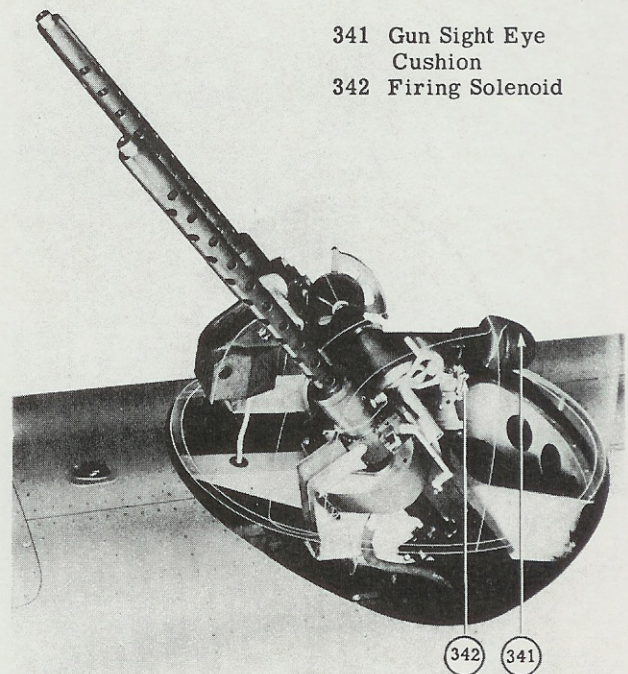

Figure 38 - Upper Gun Turret (Exterior View)
(5) Rotate the sight cushion (figure 38) for individual focus.